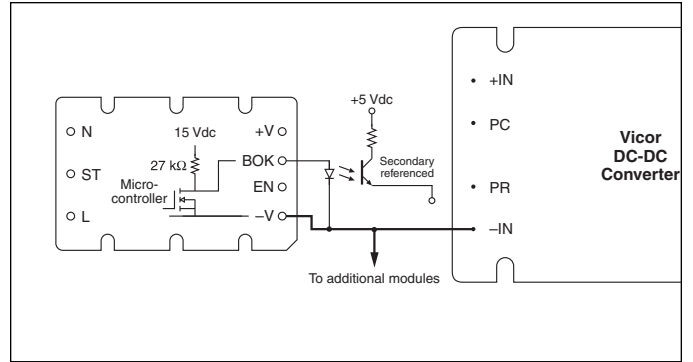

Figure 7-5 — Bus OK (BOK) isolated power status indicator
**Bus OK (BOK) Pin.** (Figure 7-5) The Bus OK pin is intended to provide early-warning power fail information and is also referenced to the negative output pin.